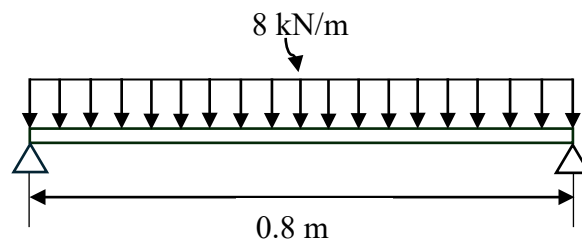

Figure 3(c) / Rajah 3(c)
- c) A 0.8 m long T shape beam supports a uniformly distributed load of 8 kN/m as illustrated in figure 3(c). Given the Young's Modulus, $E = 80 \text{ GPa}$ and the second moment of area, $I = 1.51 \times 10^{-6} \text{ m}^4$. Determine: